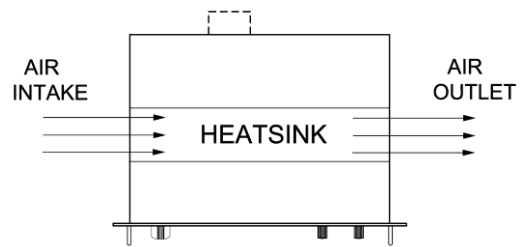

fig 9 -1
- The internal construction of the power supply is such that no dust will reach the sensitive control circuitry, only the heat sink in a tunnel will be cooled by forced air (see fig. 9 - 1)